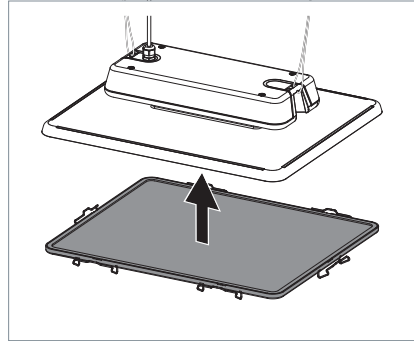

Fig. 13: Positioning the safety glass.
- ▶ Place the safety glass on the luminaire from below, see Fig. 13.